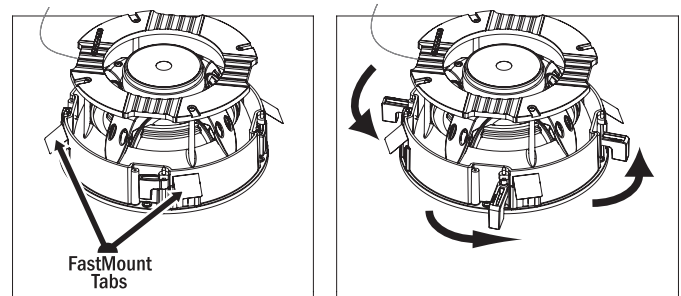

Figure 4: Original Series Medium Round Speaker Installation
SEE FIGURE 4 FOR COMPLETE INFORMATION ABOUT THE FASTMOUNT TABS.
- The FastMount tabs will prevent the speaker from falling out of the mounting hole, allowing the installer to let go of the speaker to pick up tools or other items (see Figure 4).
6. Tighten the four screws on the front of the speaker baffle. The Roto-Lock clamps will automatically rotate into position and begin clamping the speaker (see Figure 4).